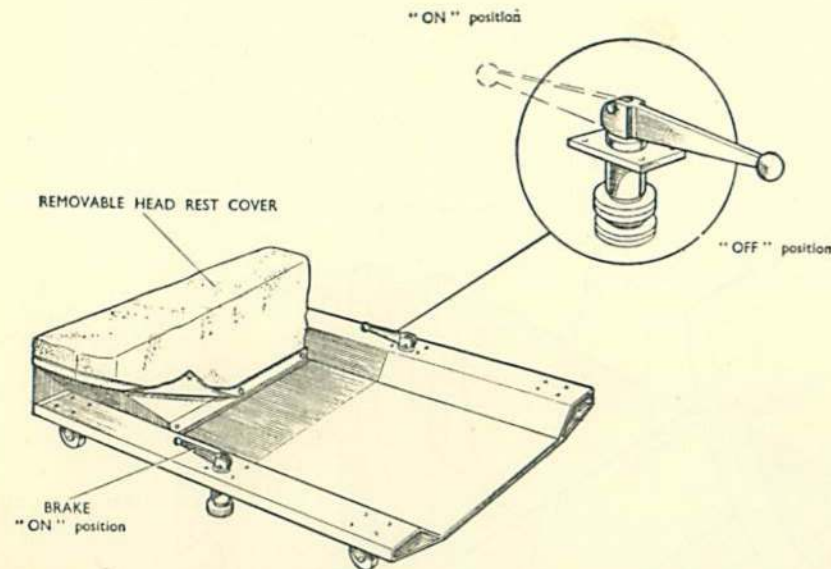

Fig. 4. Servicing creeper
17. The servicing creeper shown in fig. 4 is recommended for gun servicing. The re-arming operations which call for the use of the creeper are annotated with an asterisk in para. 20, 22 and 25. The detachable head rest cover should be changed at frequent intervals.